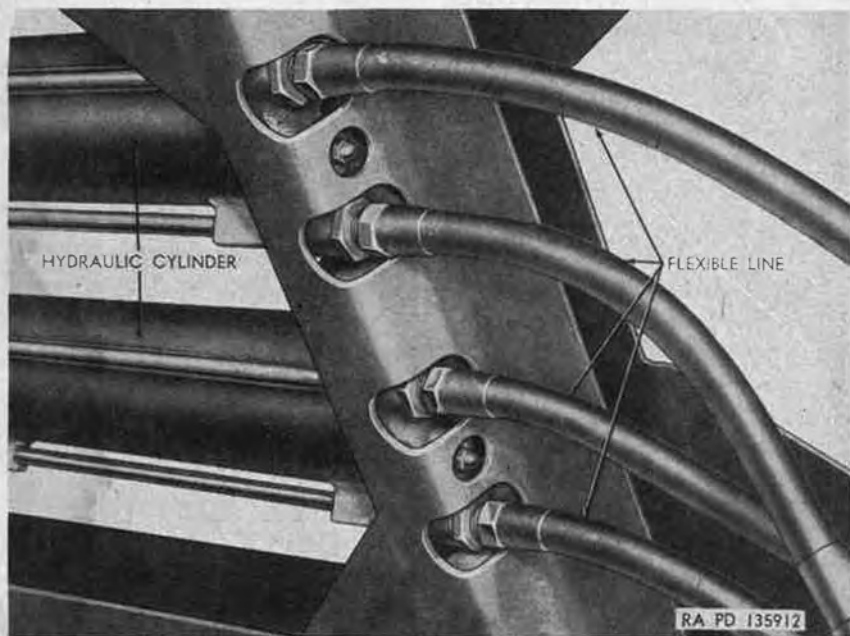
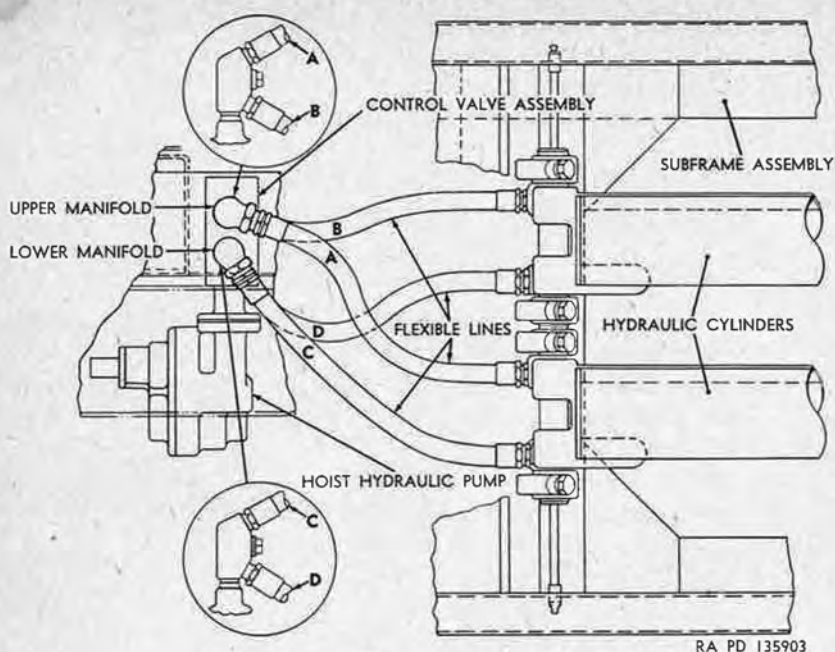
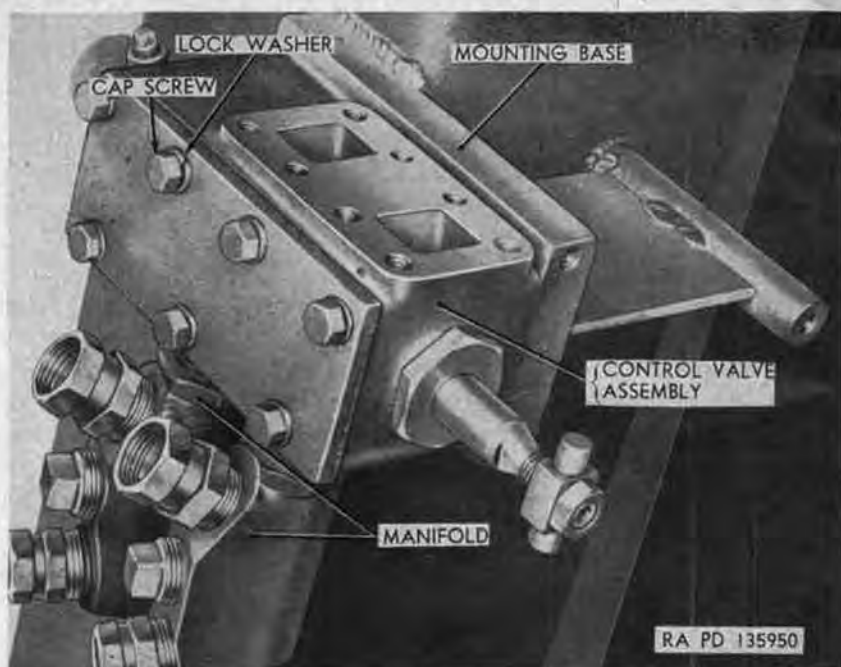

Figure 328. Front bottom view of hoist cylinders and flexible lines M51.
Figure 330. Hoist assembly flexible lines.
Figure 332. Removing control valve assembly M51.
- (3) Disconnect two hydraulic flexible lines (fig. 328) from ports at base of cylinder to be removed.
- (3) Connect two hydraulic flexible lines (fig. 328) to ports at base of cylinder. Refer to figure 330 when connecting lines.
- (4) Disconnect four hydraulic flexible lines from manifolds (fig. 332) installed in control valve outlet ports.
- (5) Remove eight cap screws (fig. 332) and lockwashers securing control valve assembly to mounting base at rear of reservoir, and remove valve from base.
- (1) Position control valve assembly (fig. 332) on mounting base at rear of reservoir, and secure with eight cap screws and lockwashers.
- (2) Connect four hydraulic flexible lines to manifolds (fig. 332) installed in control valve ports. Refer to figure 330 when connecting lines.